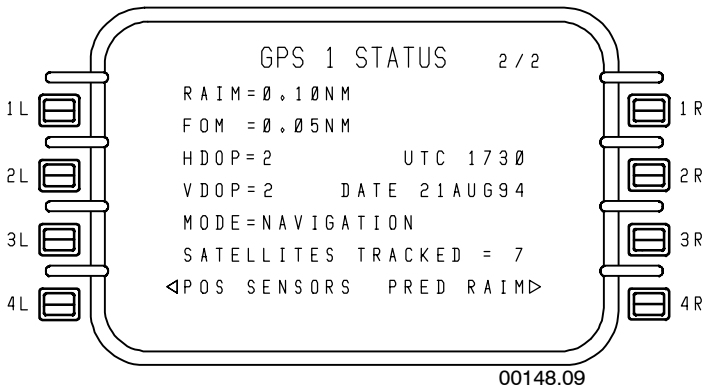

Figure 6-131
- **GPS(X) STATUS 2/2** - Figure 6-131 displays the following information: